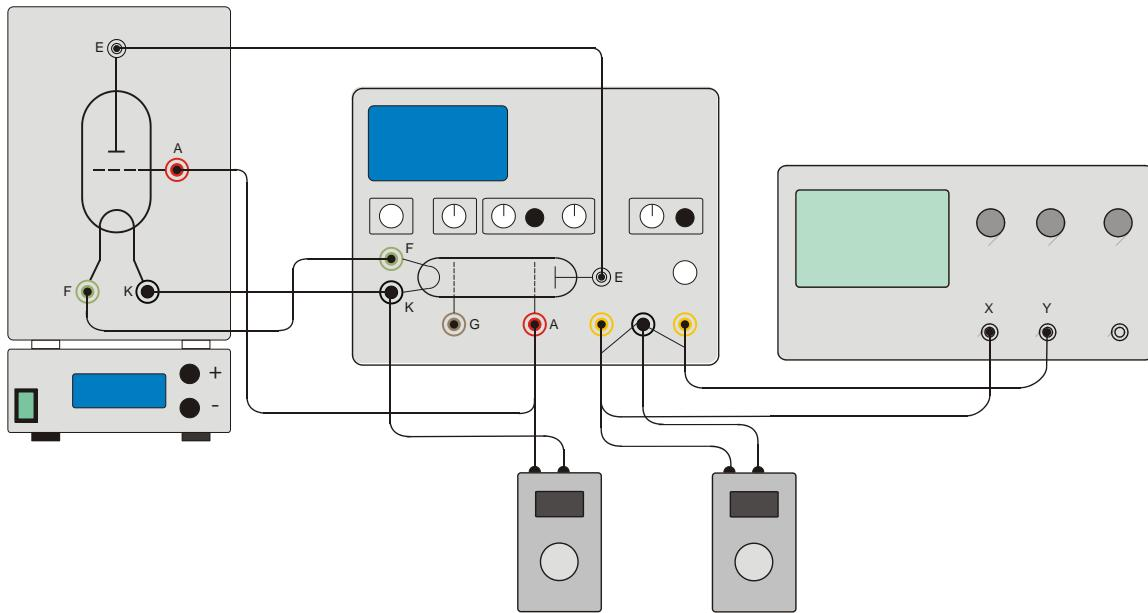

Fig. 3 Experiment set-up for Franck-Hertz tube with 2 digital voltmeters
- Connect a digital voltmeter between the signal output ( $U_x$ ) and the ground socket (refer to fig. 3).